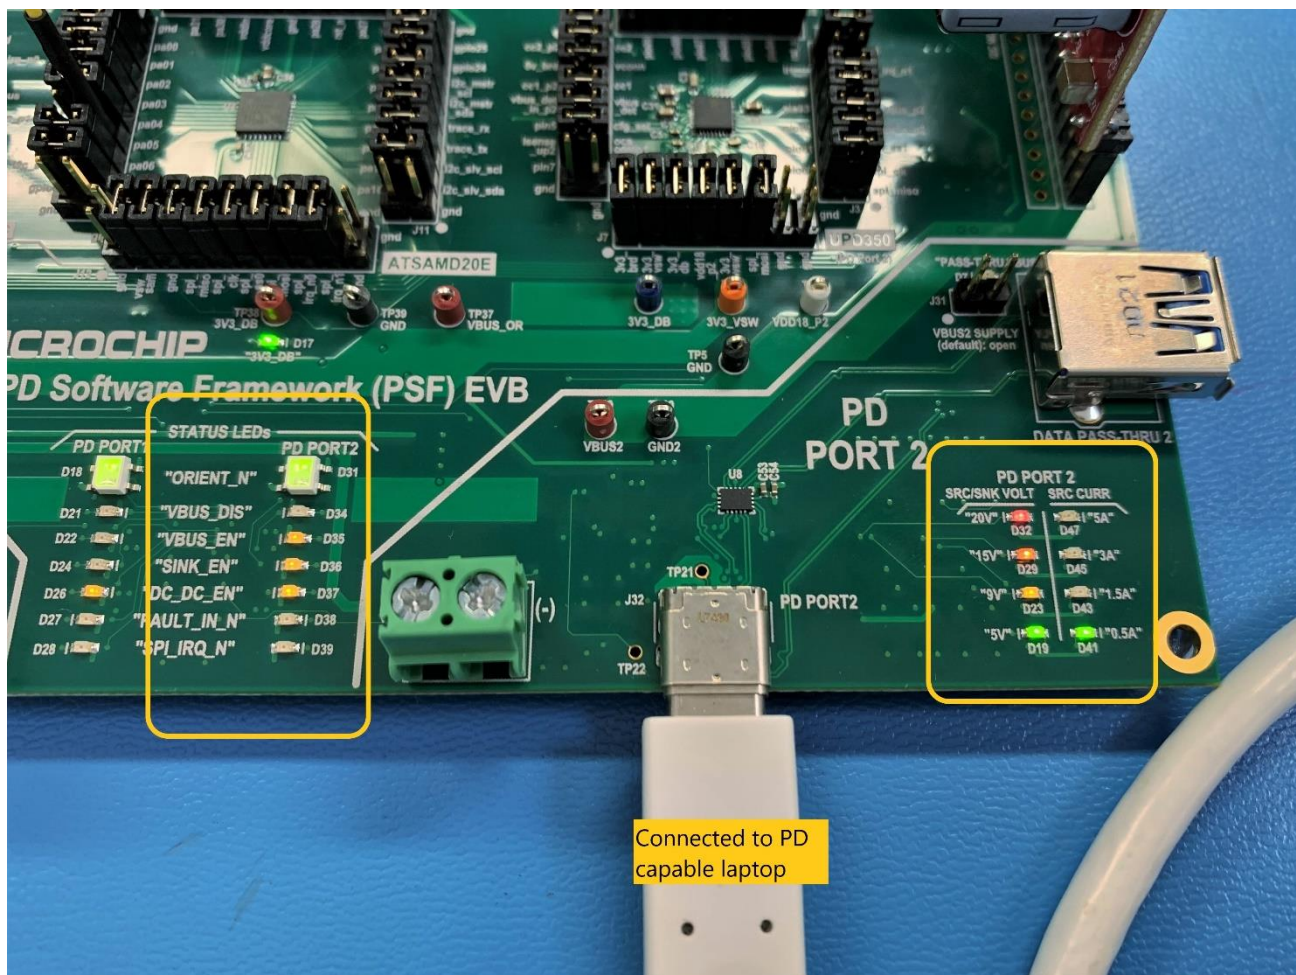

Figure 7.2 VBUS_EN, DC_DC_EN and PDO Status LEDs when attached as Source
4. Once an explicit power contract negotiation is in place, the device starts charging. PDO status LEDs will turn on indicating the negotiated voltage as shown in Figure 7.2